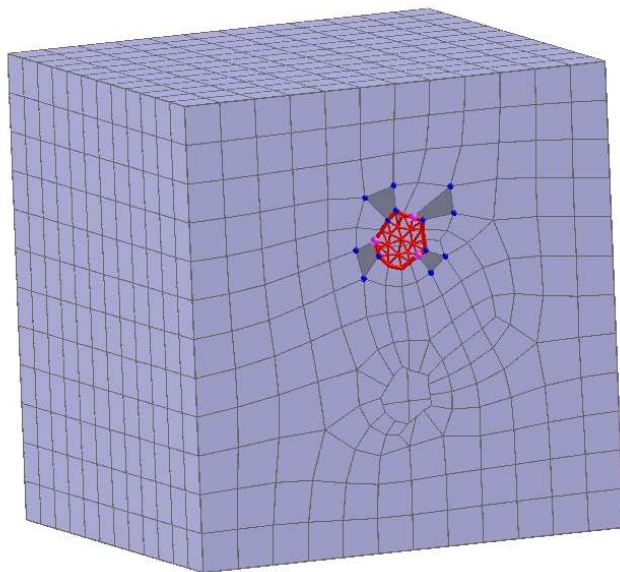

Figure 15: Fill hole using triangle elements.
- Pick the nodes until a unique closed loop is identified by the appearance of triangle elements filling the hole as shown in Figure 15.